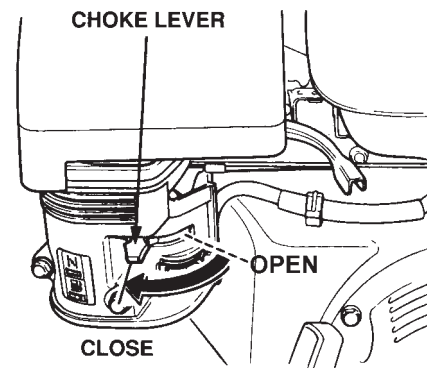

Figure 19. Choke Lever
5. Place the **Choke Lever** (Figure 19) in the "OPEN" position
9. If the engine has started, slowly return the choke lever (Figure 19) to the **CLOSED** position. If the engine has not started repeat steps 1 through 5.